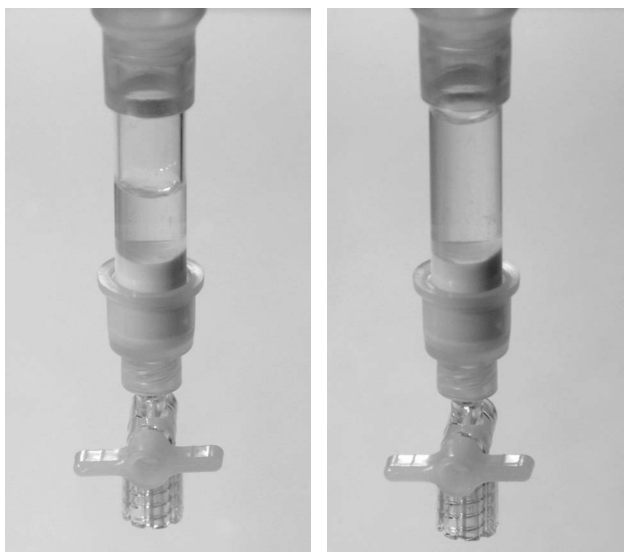

Figure 6.9. Packing the column with resin.
1. Fully resuspend the Profinity IMAC Ni-charged resin and then carefully pipet 2 ml of the resin slurry into the column. Stand the column upright and allow the resin to settle onto the bed support of the column (Figure 6.9, left picture).
2. Gently pipet 2 ml of distilled water into the column and allow any disturbed resin to settle (Figure 6.9, right picture).